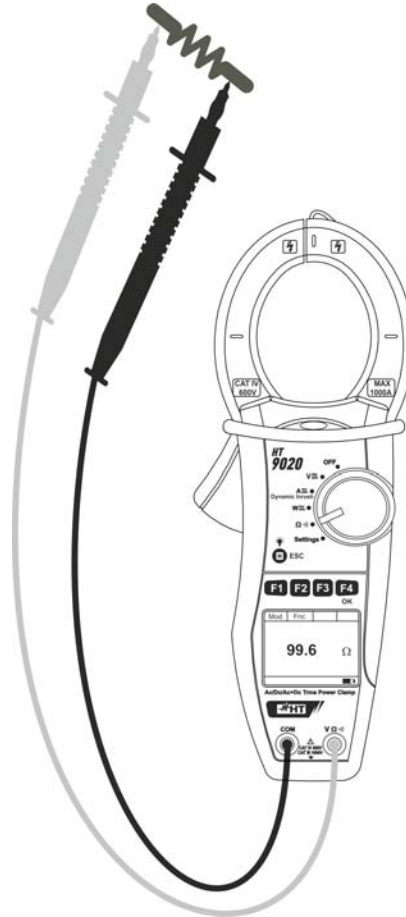

Fig. 13: Resistance measurement
4. Connect red cable to the input lead **VΩ** and black cable to the input lead **COM**, then connect the instrument as described in Fig. 13